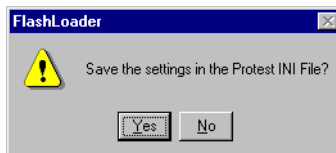

Figure A.5 *Flash Loader Save Settings*
1. Click **Save Settings** and the **FlashLoader** dialog box appears (Figure A.5).